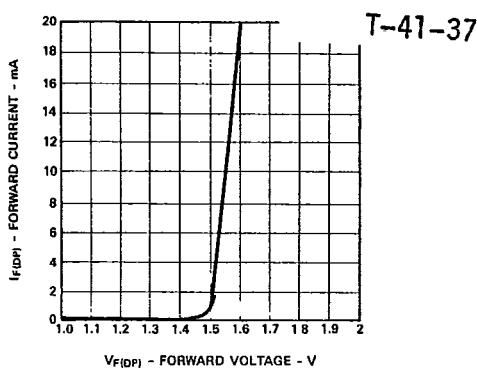

Figure 3. Forward Current vs. Forward Voltage
- 3  $V_{F(DP)}$  is not tested. See Figure 3 for forward voltage versus forward current